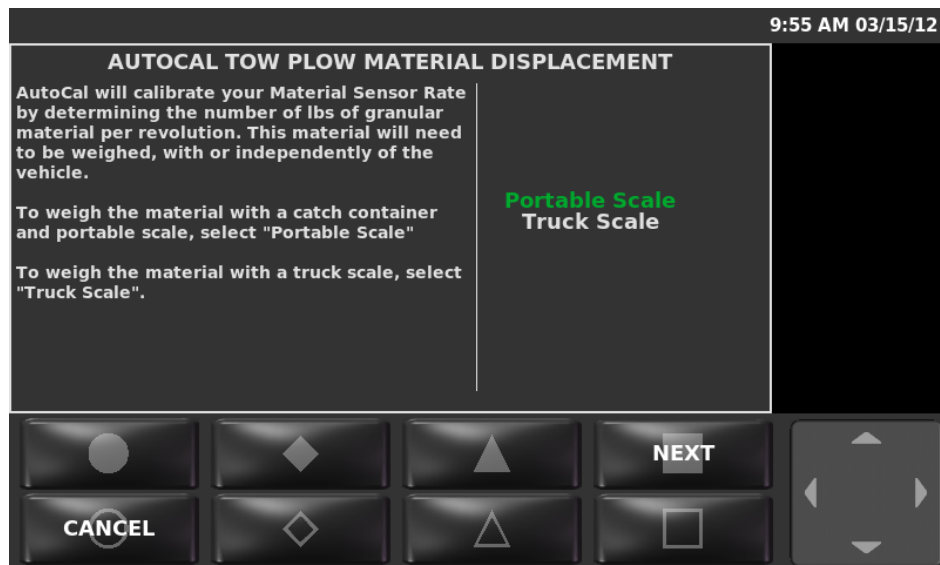

Figure 8: AutoCalibration Tow Plow Granular Material Displacement Wizard
- STEP 7: The AutoCal Displacement wizard will appear, as shown in Figure 8.